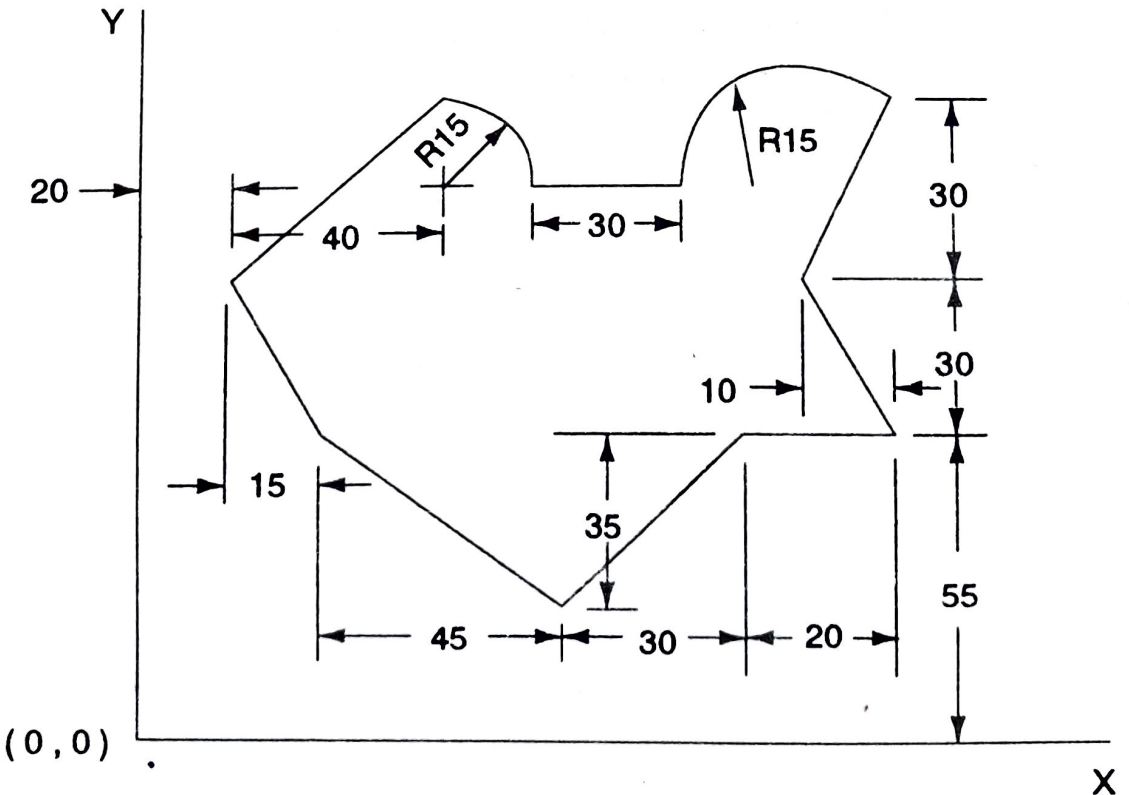

Fig. 5.11.
The direction in which the cutter path has to be shifted is decided by looking in the direction of cut. In Fig. 5.11, if the direction of cut is programmed in clockwise direction of the over size cutter, compensation would be provided to shift the cutter path towards left of the programmed path (G 41) and if the direction of cut is programmed counter clockwise the compensation would be applied to shift the cutter path towards right from the programmed path (G42). The facility of cutter radius compen-
8. Write a part programme for the workpiece shown in Fig. 5.11 using incremental dimensioning.